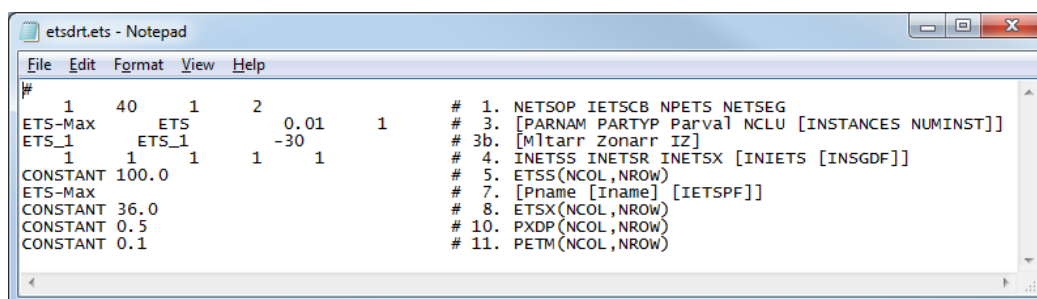

Figure 13 ETS package file
- Using a text editor, open the “etsdrt.ets” file (Figure 13).